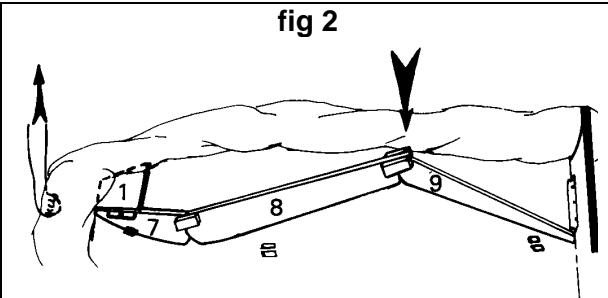
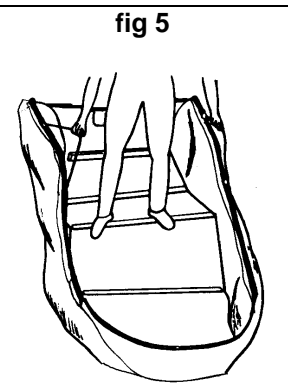

fig 3
fig 6
6. **Respecting the order : slide** element (2) against element (1), element (3) against element (2) then slide element (6) against the transom retaining batten (10) [fig 6], and position elements (4) and 5 as an apex. [fig.3]. **IMPORTANT:** Check the good position of the keel into its blocks.